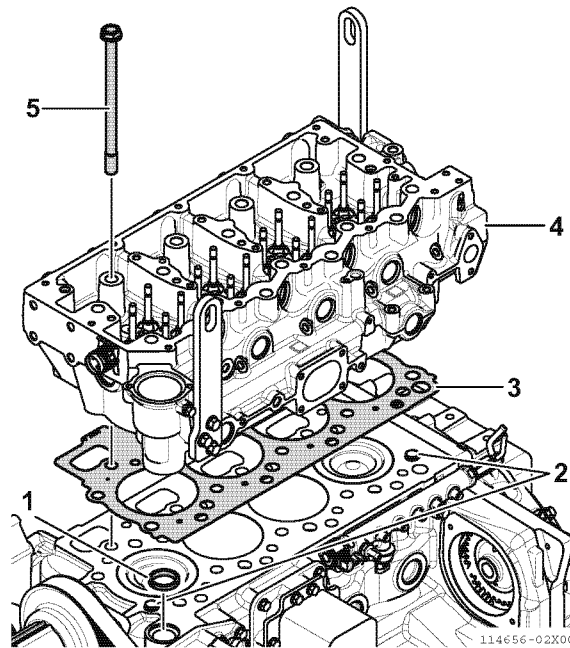

Fig.14-9
2. Install the coolant gasket (1, Fig.14-9).
3. Install a new gasket (3, Fig.14-9) on to the cylinder block while matching to the two pipe knocks (2, Fig.14-9) on the cylinder block side.
4. Use a crane to place the cylinder head to the cylinder head gasket (4, Fig.14-9).
5. Apply clean lubricating oil to the thread part and the bolt seat of the cylinder bolt (5, Fig.14-9), and then attach the bolt.